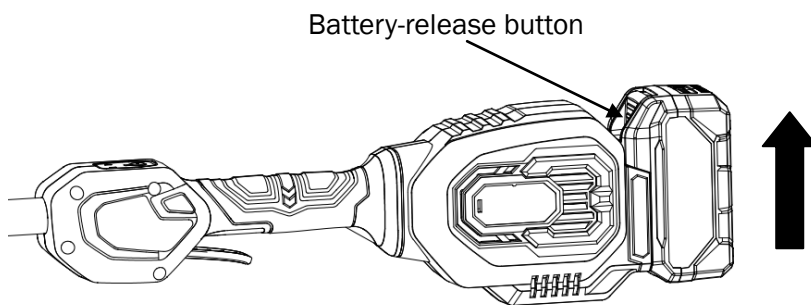

Fig. 9
2. Press the battery-release button to disengage the battery from the latch. (Fig. 9)